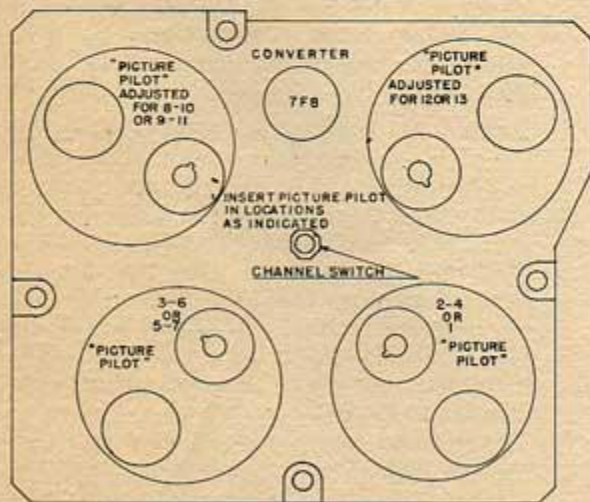

Fig. 5 - Socket Location for Picture Pilot
9. Insert the Picture Pilots for the desired channels into the correct sockets on the main chassis as shown in sketch, Fig. 5.
These numbers must coincide with the channel actually selected by the switch. (See Fig. 5 & 5A). These figures show the required position of the Picture Pilots and the selector switch position.